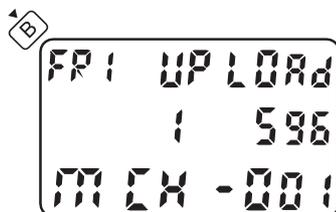

Fig. 21
- Pressing B at the UPLOAD ALL mode will go to the UPLOAD RACE mode with display as shown in Fig.21.